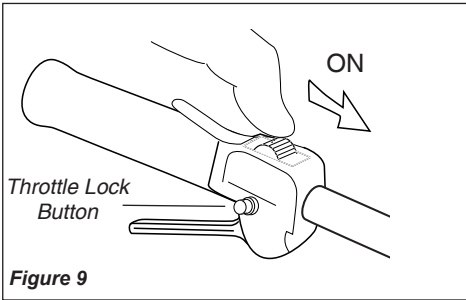

Figure 9
1. Slide the ignition switch to the "ON" position. See Figure 9.
- c. While depressing the throttle lock button, release the throttle lever. Then release the throttle lock button. See Figure 9.